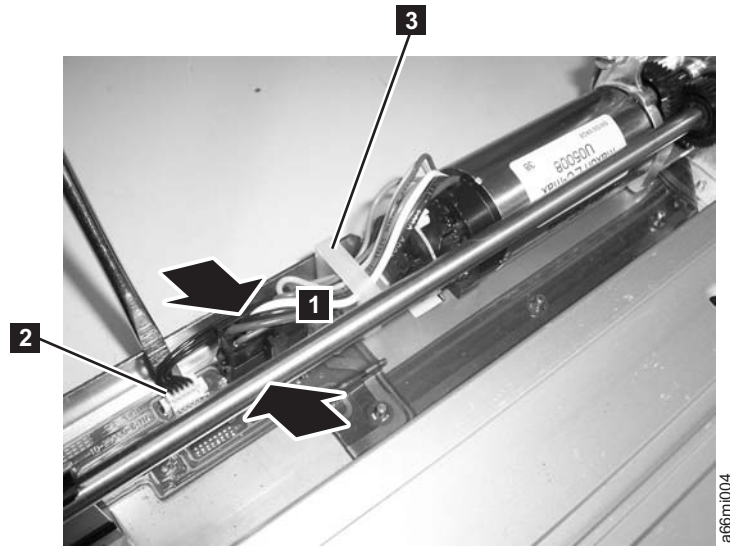

Figure 8-51. Y motor connector
3. Connect the small white connector (**2** in Figure 8-51 on page 8-55).
4. Connect the large black connector. See Figure 8-51 on page 8-55.
- a. Pinch the latch on the cable connector (**1** in Figure 8-51).